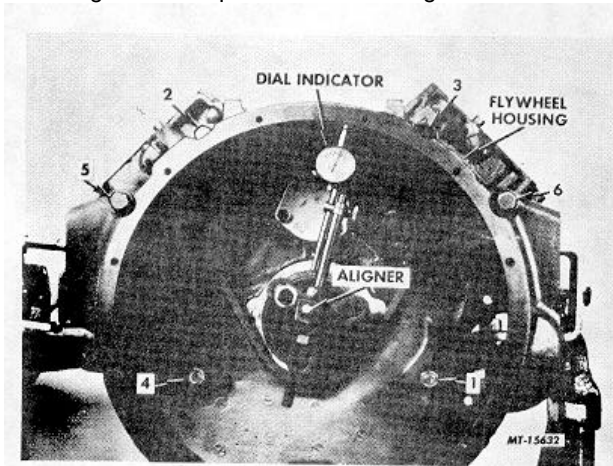

Fig. 120. Mounting and Alignment of Flywheel Housing
16. Rotate cylinder block to horizontal position with top of block facing upward. Place flywheel housing in position over two aligning roll pins and tap into place with soft hammer. Install connecting capscrews (with flat washers) and tighten in sequence shown in Figure 120.
17. Using aligner tool SE-1834 and dial indicator, check flywheel housing alignment (Fig. 120). Runout (out-of-round) should not exceed specified limits (see SPECIFICATIONS).